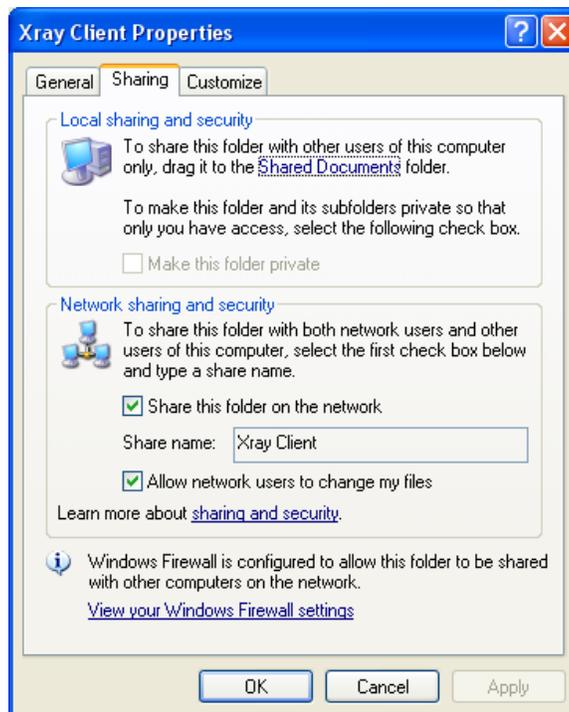

Figure 256: Folder sharing property settings for the Slave PC’s “Xray Client” folder
9. Enable sharing of the Xray Client folder. Note that this is not necessary on the master PC. Path: right-click “Xray Client” folder > “Properties” > “Sharing” > “If you understand the security risks but want to share files without running the wizard, click here.” > “Just enable file sharing” > “OK” > select both “Share this folder on the network” and “Allow network users to change my files”. Please see Figure 256 below.